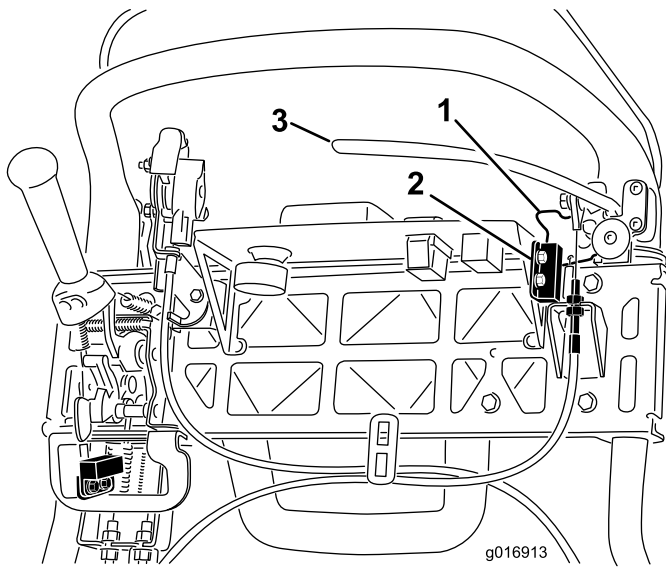

Figure 39
4. Loosen the interlock switch mounting fasteners (Figure 39).
5. Place a .062 inch (1.6 mm) thick shim between the parking brake latch and the interlock switch (Figure 39).